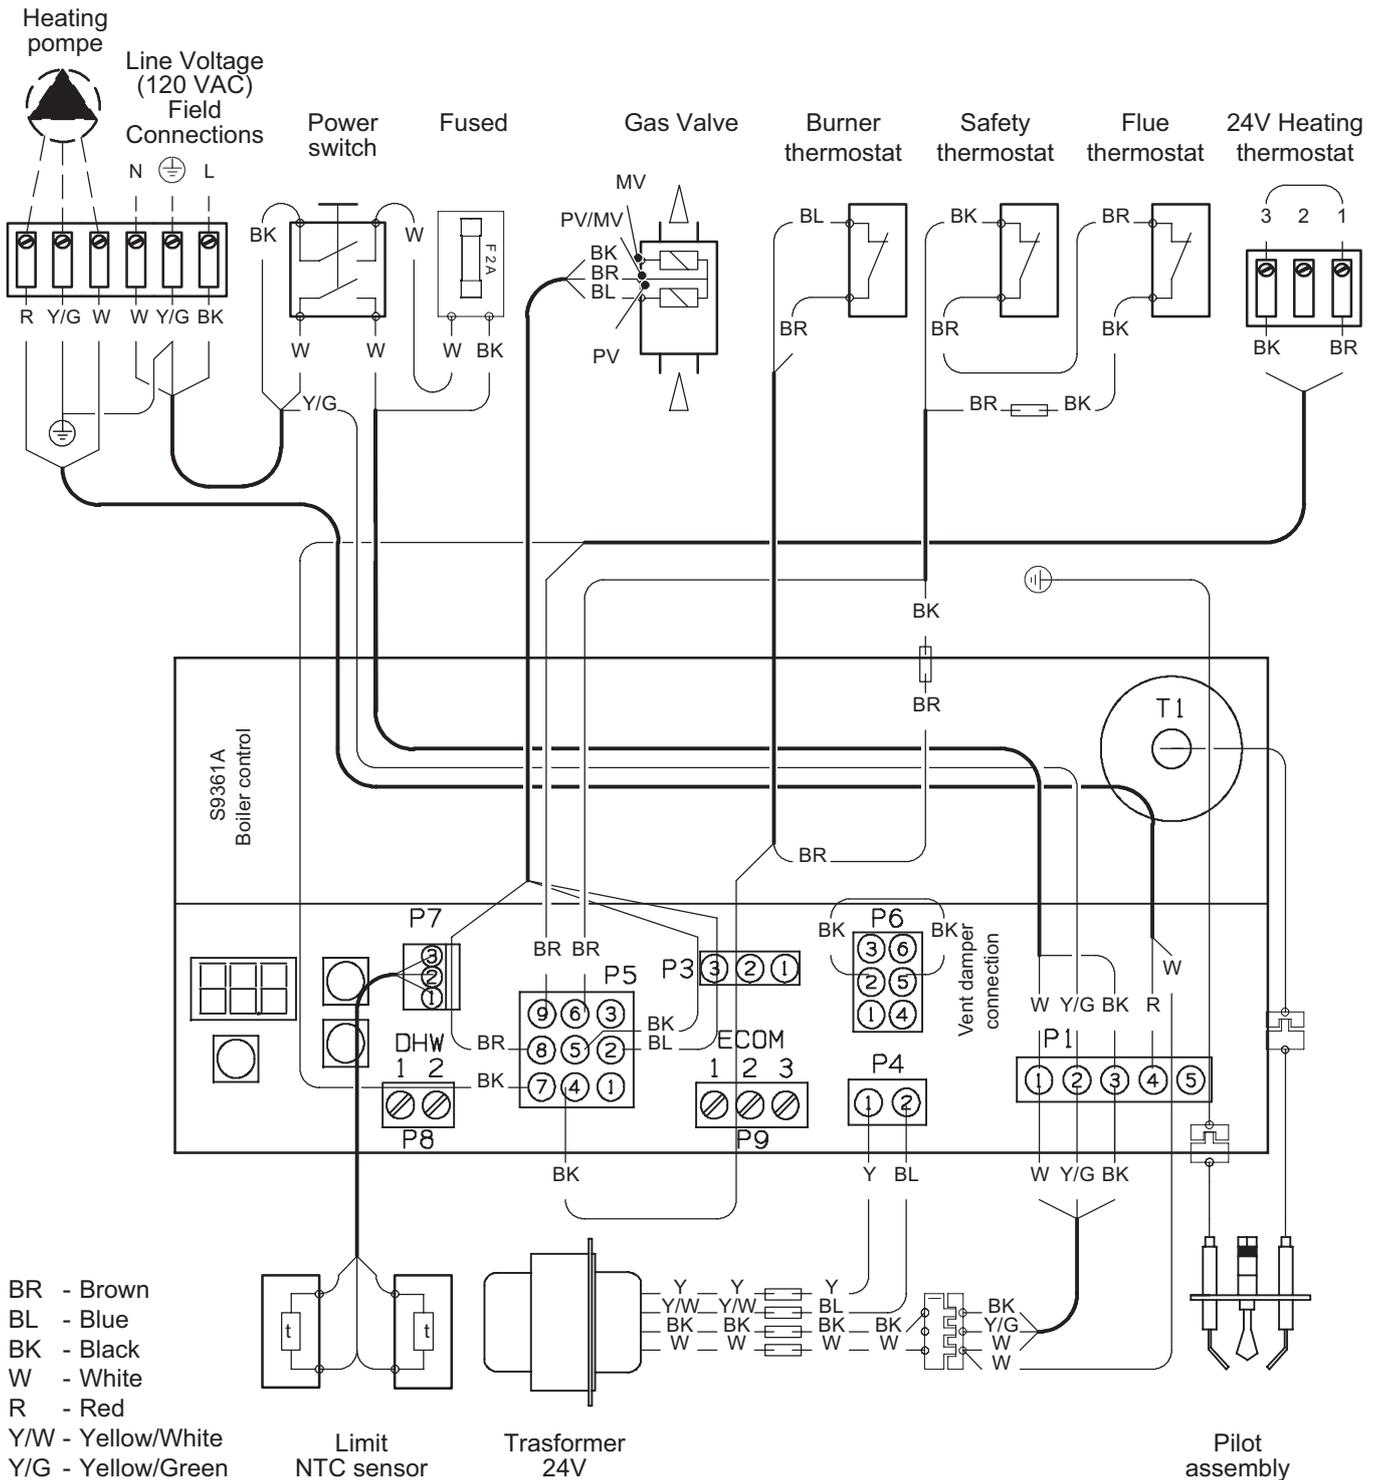

Figure 10.1 (Field connections)
- 1) Line Voltage (120 VAC) Field Connections – See Figure 10.1 for line voltage connections. Provide a dedicated circuit for the boiler of 15A or greater. A service switch is recommended and is required by many local codes. Locate this switch in accordance with local codes or, in the absence of any, in a location where it can be safely accessed in an emergency involving the boiler. All 120VAC connections to the boiler itself are made inside the junction box on the right side of the boiler (accessible through the cover plate on the right side jacket panel). 120VAC connections are:
- a. Heating Circulator - Pumps water upon a call for heat (CH) from the thermostat terminals T-T shown in Figure 10.1 or from an EnviraCom (ECOM) thermostat. This output is factory wired to the "circulator whip" mounted on the boiler.
- 2) Low Voltage Connections – Low voltage field connections are located as shown in Figure 10.1 and are as follows: